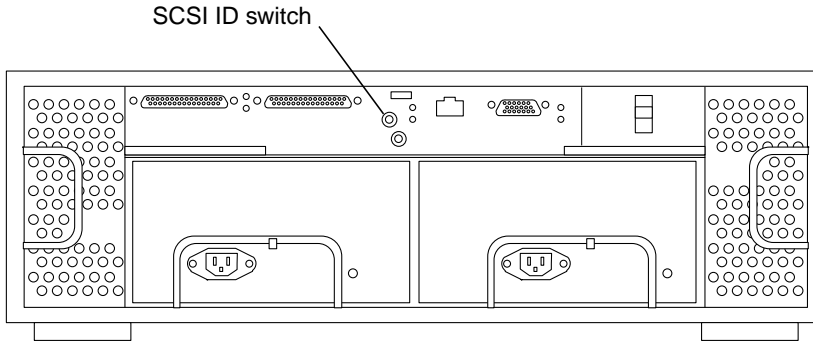

FIGURE A-5 Netra st A1000 Rear View
2. At the rear of the Netra st A1000 system, locate the SCSI ID switch (FIGURE A-5).